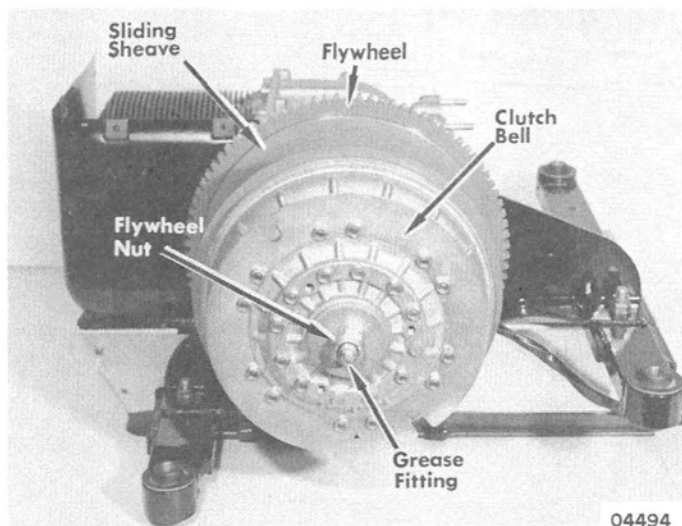

Figure 1. Removing Grease Fitting from Flywheel Stud
12. Place wiring harnesses in their respective retaining clips. (Figures 1 and 2)
1. Remove grease fitting from flywheel stud. (Figure 1)